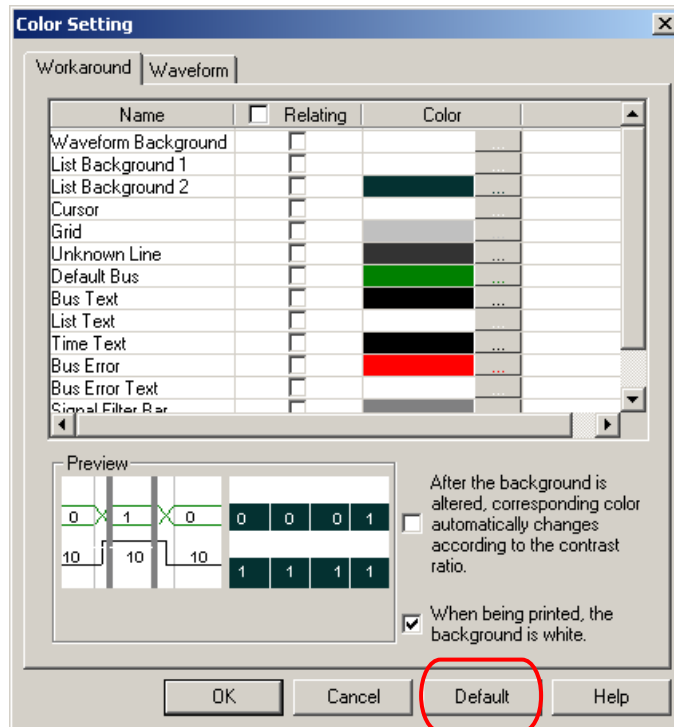

Fig. 6-6 – Restore Color Defaults
- A: Yes, there is. Click **Tools** from the menu bar, and select **Color Setting**; click **Defaults**. However, this restores everything in this window. You must make a further adjustment if the color setting is the only thing you want to restore. See Fig. 6-6.